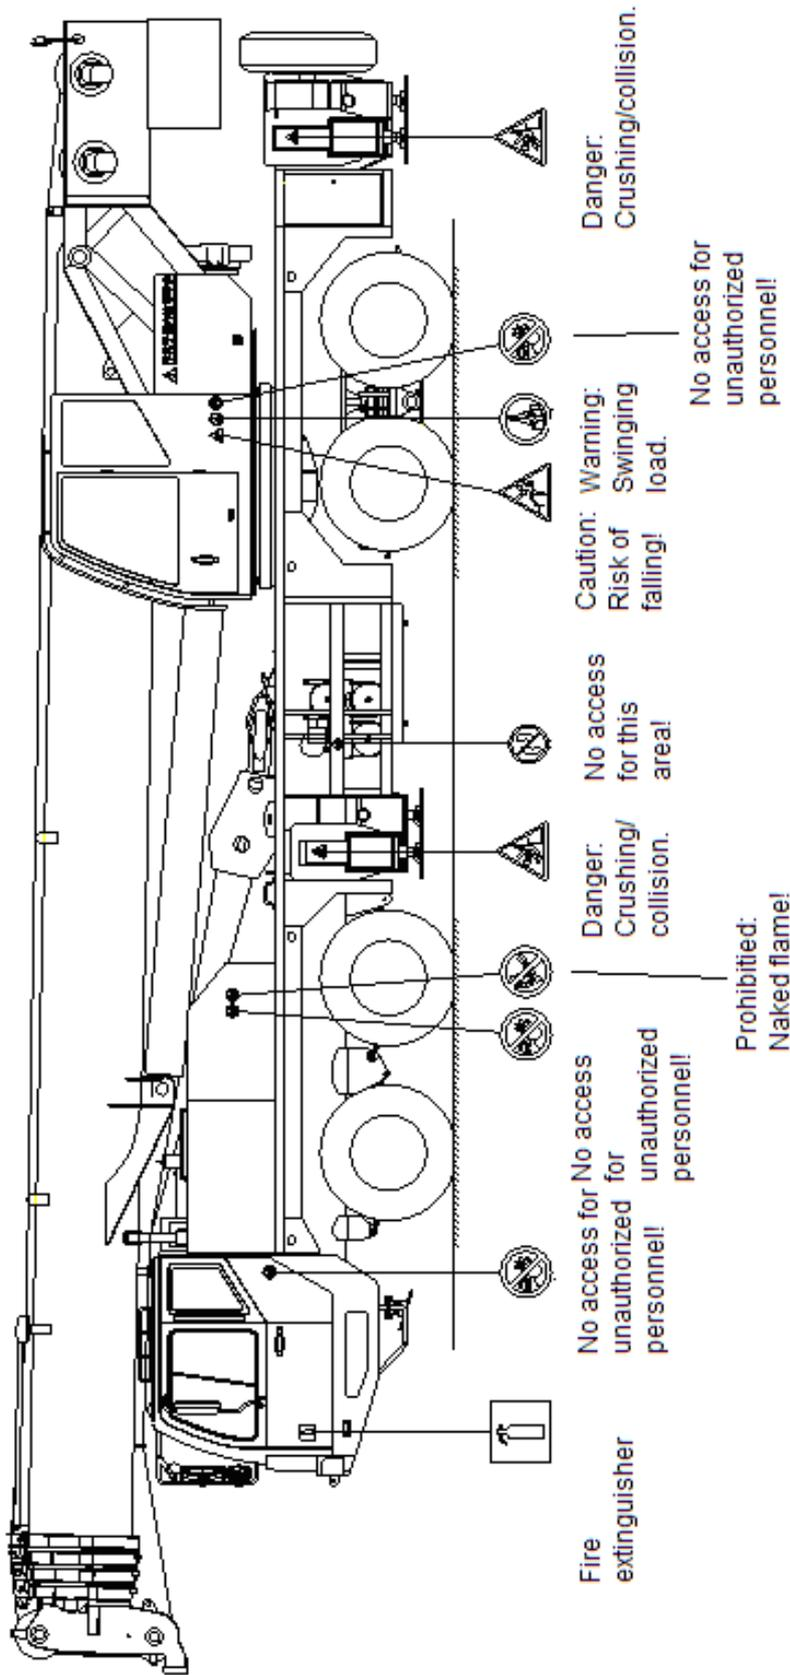

Figure 02 -- 01
- a) The locations of safety signs are as shown in Figure 02 – 01.